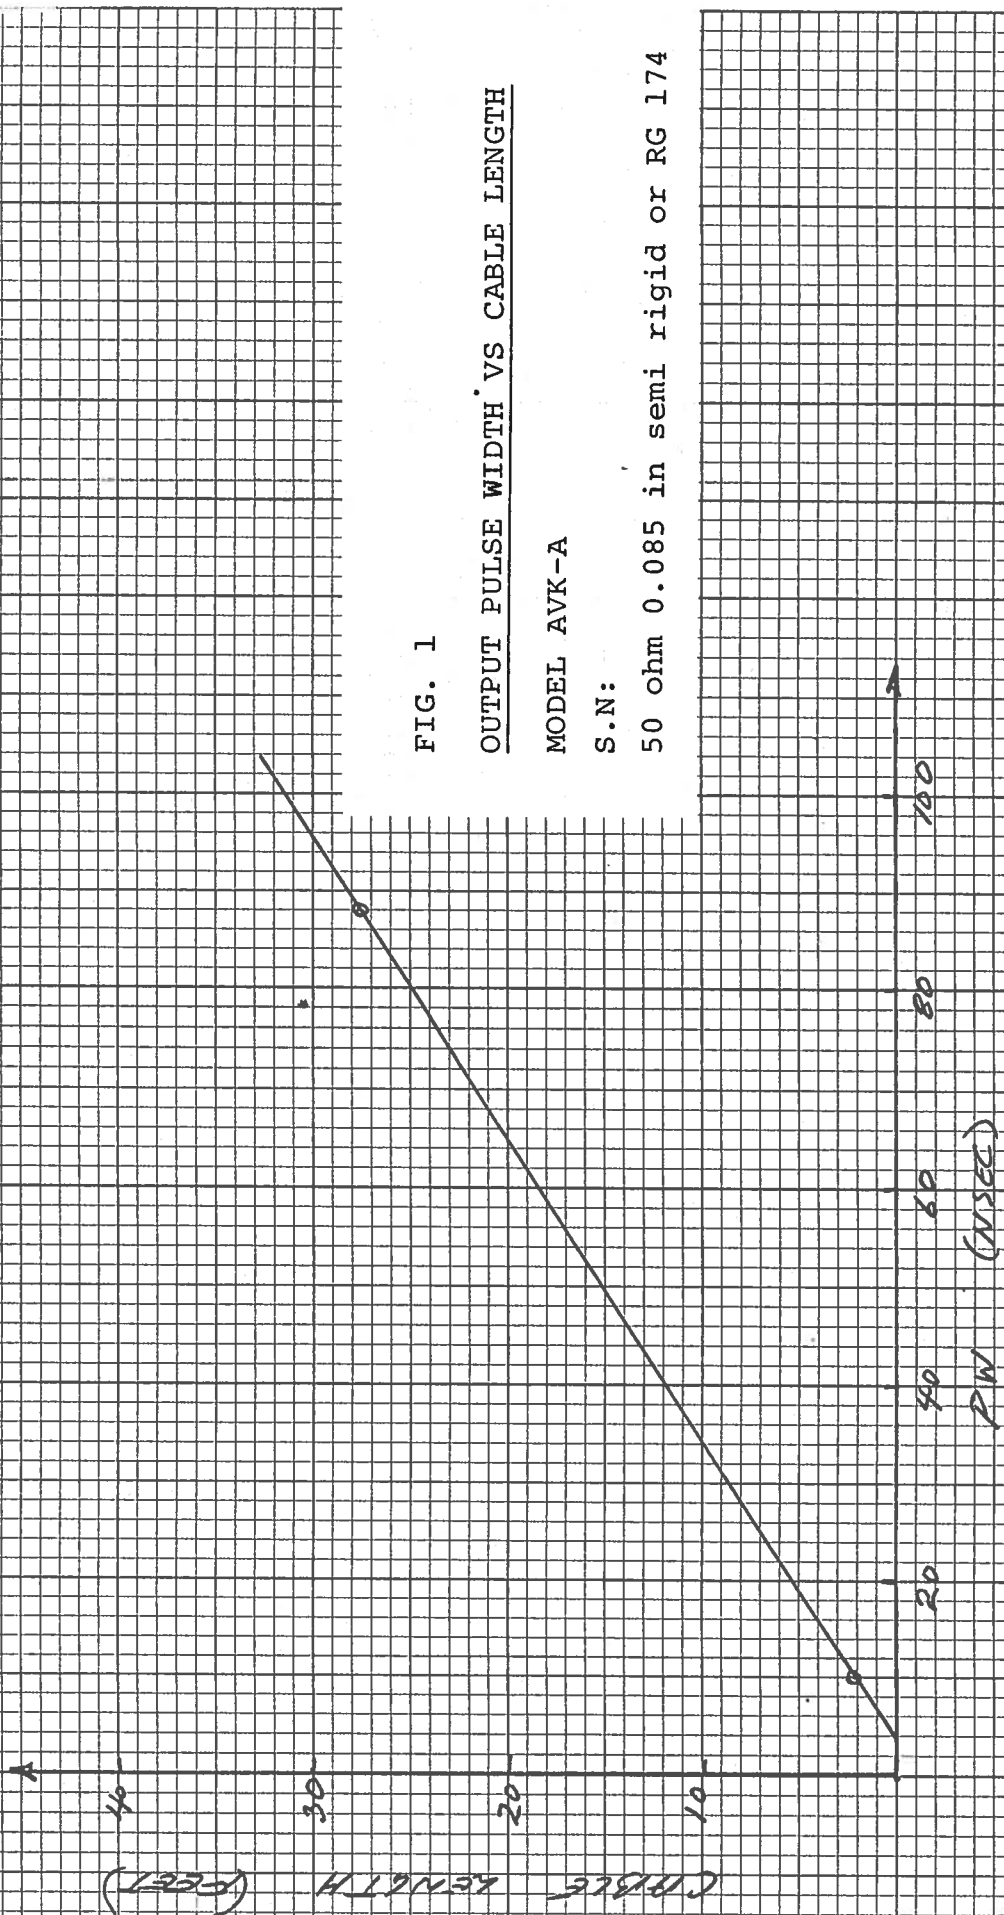

FIG. 1
- 4) The Model AVK-A output pulse width is a linear function of the length of open circuited coaxial cable connected to the "PW" port (see Fig. 1). The open circuited delay line should be formed from high-quality semi-rigid 50 ohm coaxial cable (eg. 0.085 inch copper 50 ohm semi-rigid). Miniature flexible coaxial cable such as RG 174 may be used but may result in a degraded fall time. In the absence of an external cable connected to the tune port, Model AVK-A outputs a 4 nsec pulse.